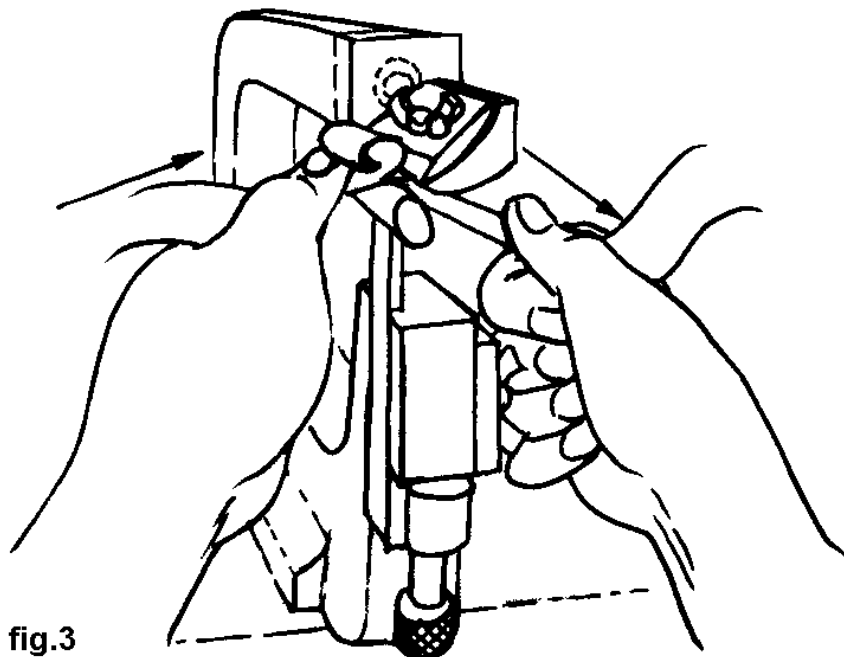

fig.3
- 3 Hold the right hand side of the leather firmly and pull steadily in a downward direction, whilst keeping tension with left thumb against the anvil. It is essential that the leather is kept under tension and pulled in a downward direction, to prevent the blade digging in and ruining the skin. See *fig 3*